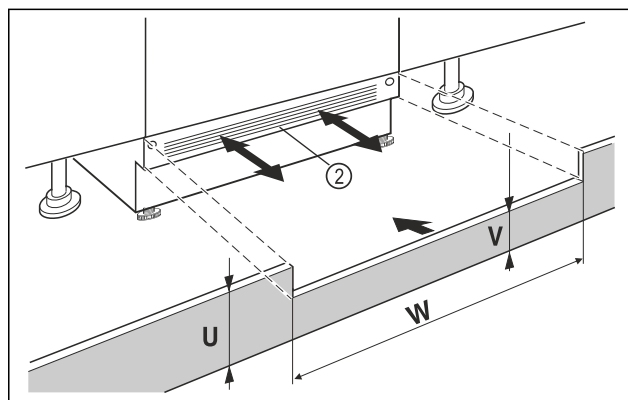

Fig. 70 Example illustration
- Put on the appliance base cover Fig. 70 (2) but do not fix it yet.
- If the base cover Fig. 70 (2) is visible, pull it so far forward that the front edge of the ventilation grille and the unit base cover form one level.
- If the base cover is concealed Fig. 70 (2), push it all the way back.
- Ensure that the ventilation slots are completely free: If necessary, cut the height of the unit base cover *Fig. 70 (U)* to size!
- Adjust the bar height *Fig. 70 (V)* under the appliance base cover *Fig. 70 (2)* along the recess width *Fig. 70 (W)*.